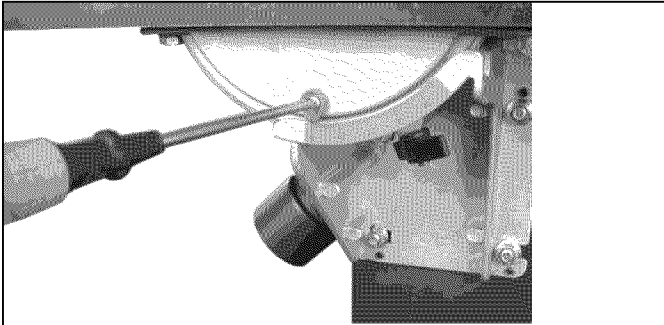

Figure 6 - Set Indicator to Zero
- Loosen the screw securing the indicator and reset if necessary to give zero degree reading (see Figure 6).